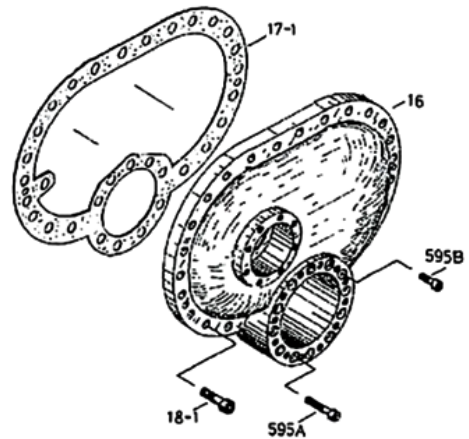

Figure 5-22 Bearing Cover
- g) There are two types of the hexagon socket head cap screws as [595A] and [595B] shown in Figure 5-22. These bolts are used for fastening the countersunk processed screw holes of the bearing cover flange surface installing the unloader cylinder.